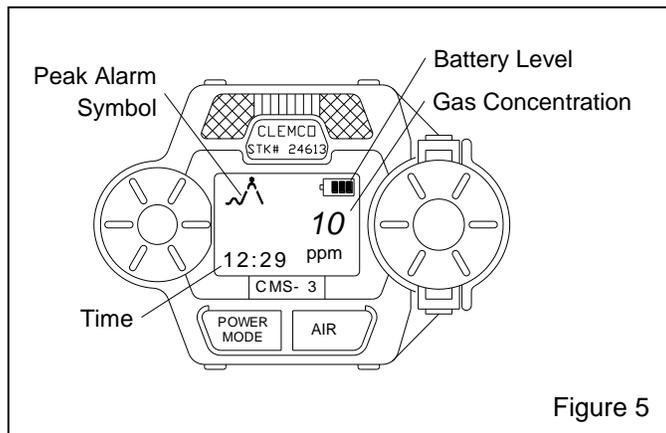

Figure 5
This section describes the normal operation of the CMS-3, and includes alarm indications. Ref. Figure 5
3.6.5 The LCD should display the Low (LO) Alarm setting (10 ppm), the battery level, and peak alarm symbol as Shown in Figure 5. *NOTE: If the LCD shows “CAL” in the lower left corner, the CMS-3 is in Calibration Mode. Press and hold the POWER/MODE button to turn off the unit. Repeat the process beginning with Paragraph 3.6.2.*